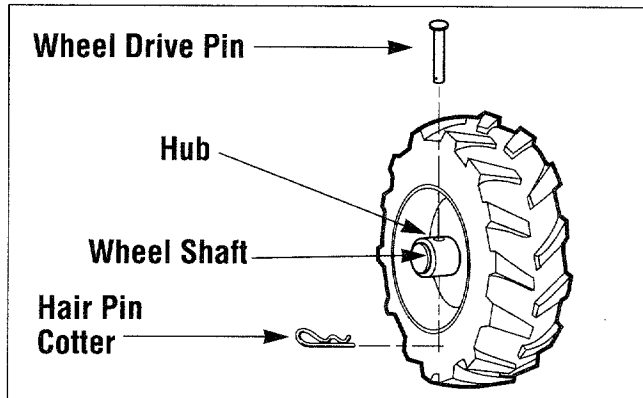

Figure 3-2: WHEEL DRIVE position.
4. Slide the wheel outward and align the holes in the wheel hub and wheel shaft. Insert the wheel drive pin through these holes (see Figure 3-2). Insert the straight leg of the hair pin cotter into the hole in the wheel drive pin as far as it will go.